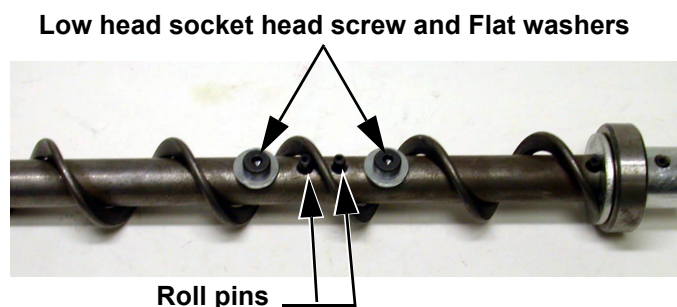

Figure 60. Auger and Anchor Bearing
If the system must be disassembled, extreme caution must be used to prevent injury from springing auger. Refer to **Figure 60**.
1. Insert the Anchor Assembly into the auger, guide the tip of the auger between the two roll pins in the center of the anchor. Continue to guide the auger until the tip of the auger hits the flat washer. Tighten the setscrews in the center of the anchor until they touch the See **Figure 60**.